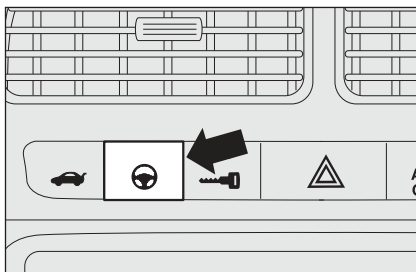

fig. 98
- the word **CITY** lit up on the button after it has been pressed **fig. 98**.